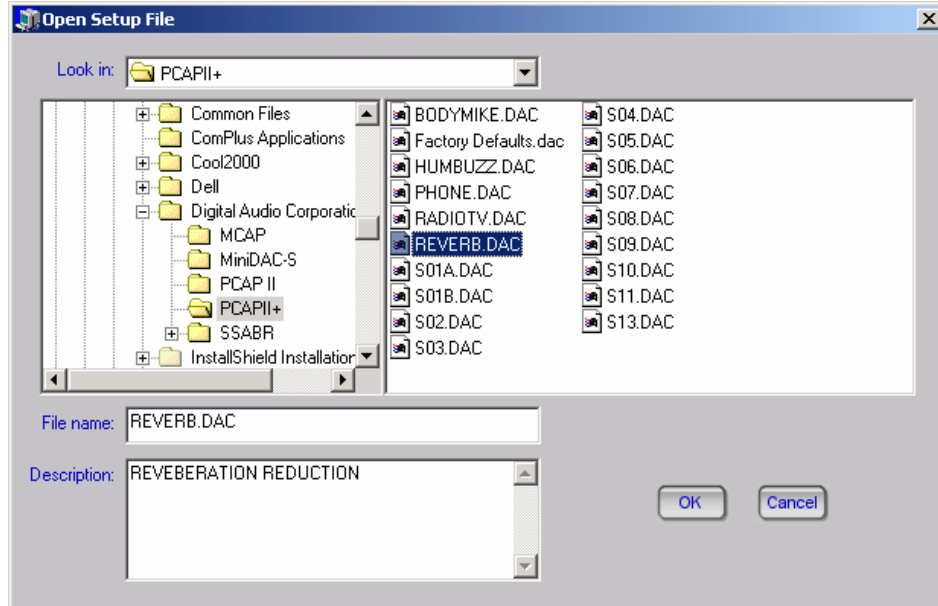

Figure 3-3 Fast Start Open Setup File Window
9. Click on **Open Setup File** to bring up a window similar to Figure 3-3: